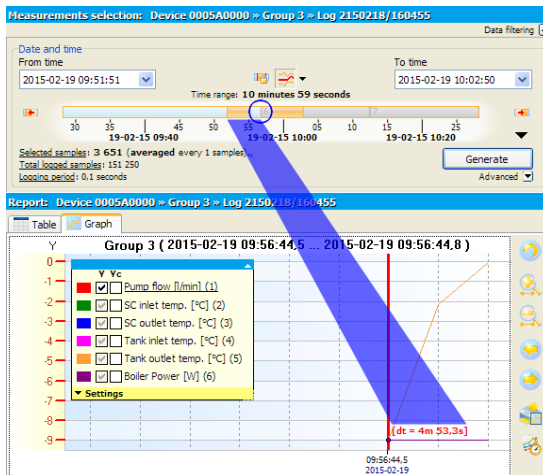

Figure 7.5. The difference of the start and end of data relative to selected time range
**DAQ Manager** allows the user to show in the graph area a special mark (red line) that indicates the time difference of the first (last) generated sample relative to the begin (end) of a user-selected time range (Figure 7.5).